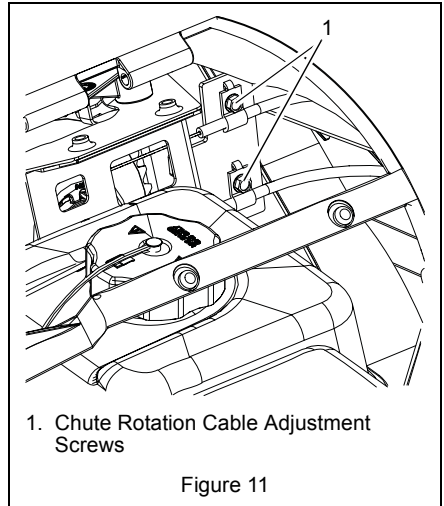

Figure 11
3. Loosen chute rotation cable adjustment screws. See Figure 11.